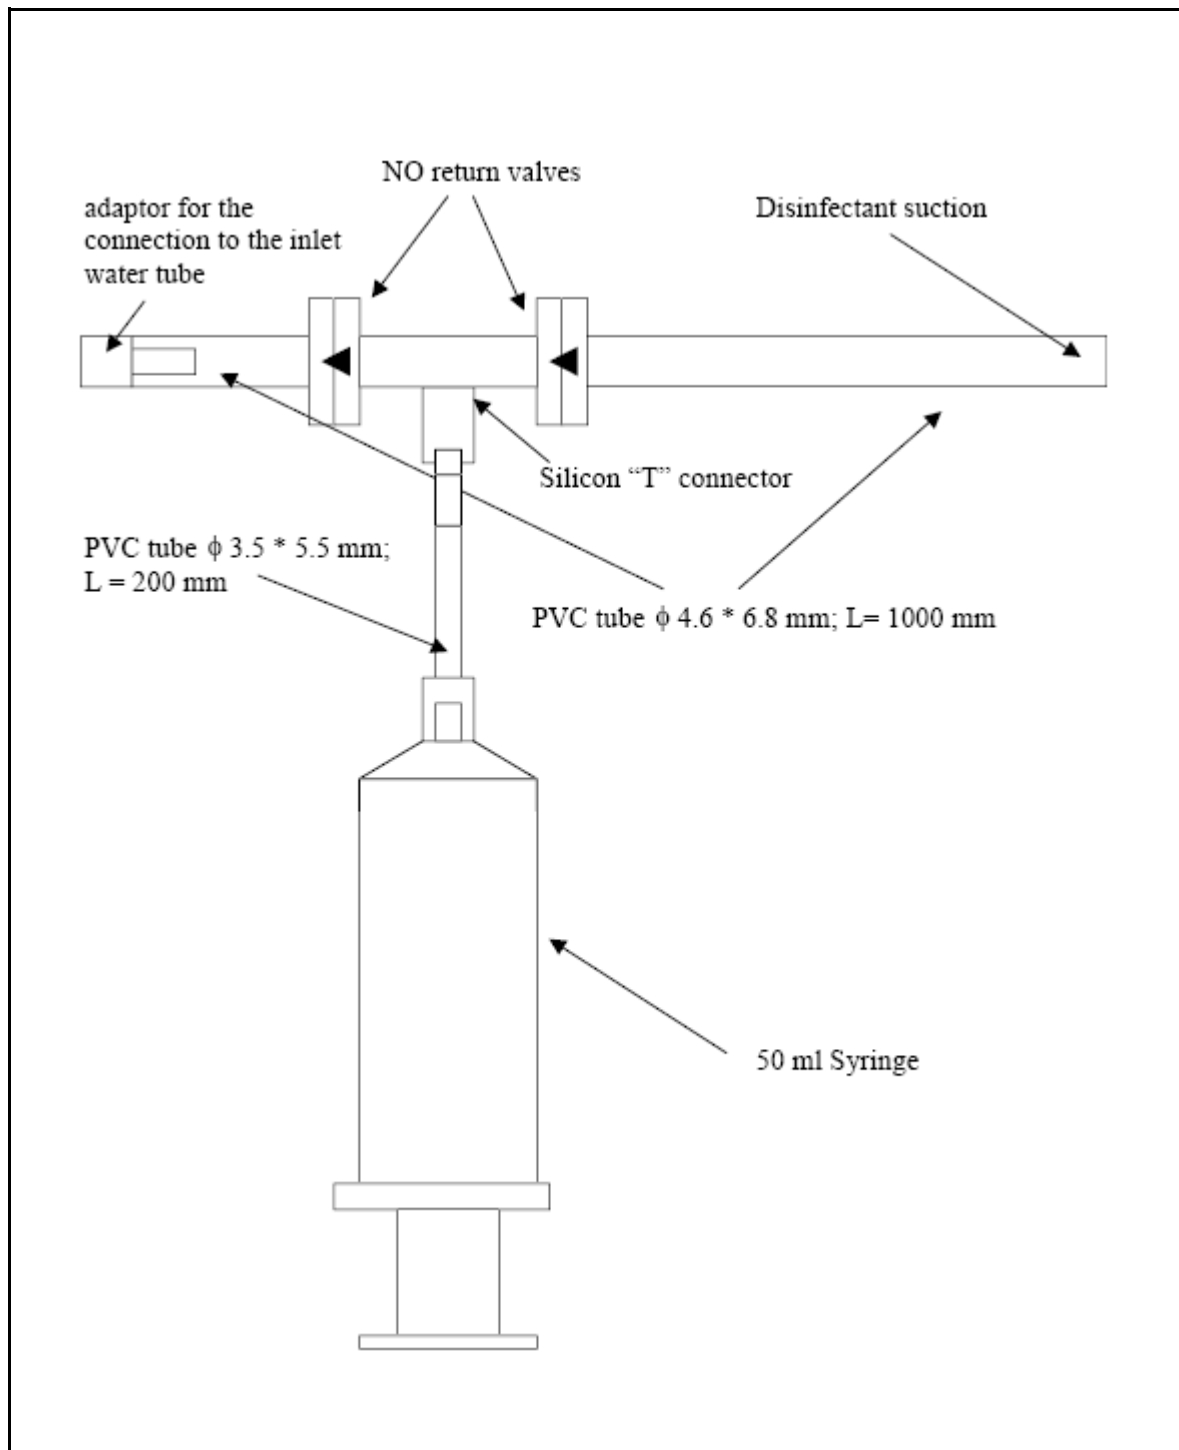

Figure 13-6. Water Inlet Tube disinfection tool
1. Assemble the Water Inlet Tube disinfection tool as shown in "Figure 13-6. Water Inlet Tube disinfection tool". Contact your Local Representative for information on how to obtain this device or the components to assemble it;
4. Disconnect the machine's water tube from the water supply system and connect it to the connector on the disinfection tool (on the left side of the device, as shown in "Figure 13-6. Water Inlet Tube disinfection tool");